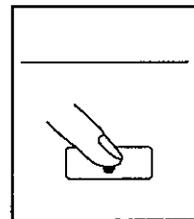

Fig. 23
- To turn the humidity function off and operate the air washer in the “air cleaning only” mode, continue to press the humidistat button until all numeric displays have disappeared (Fig. 23).